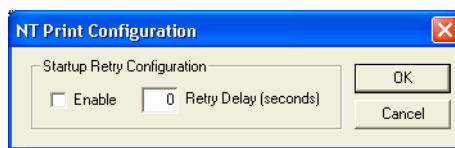

Figure 8.6 NT Print Configuration dialog box
2. Click the **Configure** button. The NT Print Configuration dialog box appears, as shown in Figure 8.6.